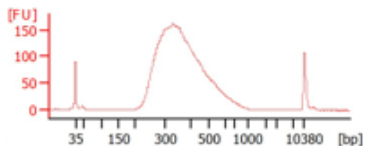

Figure A4: Typical Final Library Bioanalyzer trace for an intact RNA sample.
- 20.3 Calculate the average fragment size for each library using the Agilent 2100 Bioanalyzer software. Average fragment size should be approximately 250-400 bp (see Appendix, Figures A4 and A5).